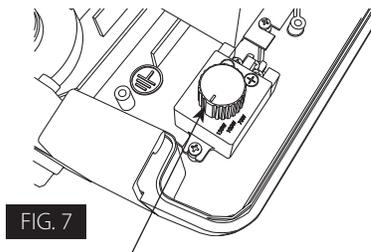

FIG. 7
5. Feed supply wires from the **Pole** to connect to the **Arm**. Make appropriate wire connections per NEC in an approved enclosure (**Fig. 7**).
4. Feed supply wires from the **Pole** to connect to the **Arm**. Make appropriate wire connections per NEC in an approved enclosure (**Fig. 7**).
Universal voltage driver permits operation at 120V thru 277V, 50 or 60 Hz. For 0-10 Dimming, follow the wiring directions as in **Fig. 7**.
2. Locate Power (W) Adjusting Knob as shown in Fig. 7.
3. Select Power (W) setting by turning the respective switch to the desired value as shown in Fig. 7.
4. Close the Driver Cover Box and secure with Screws (2) and close Latches (2).